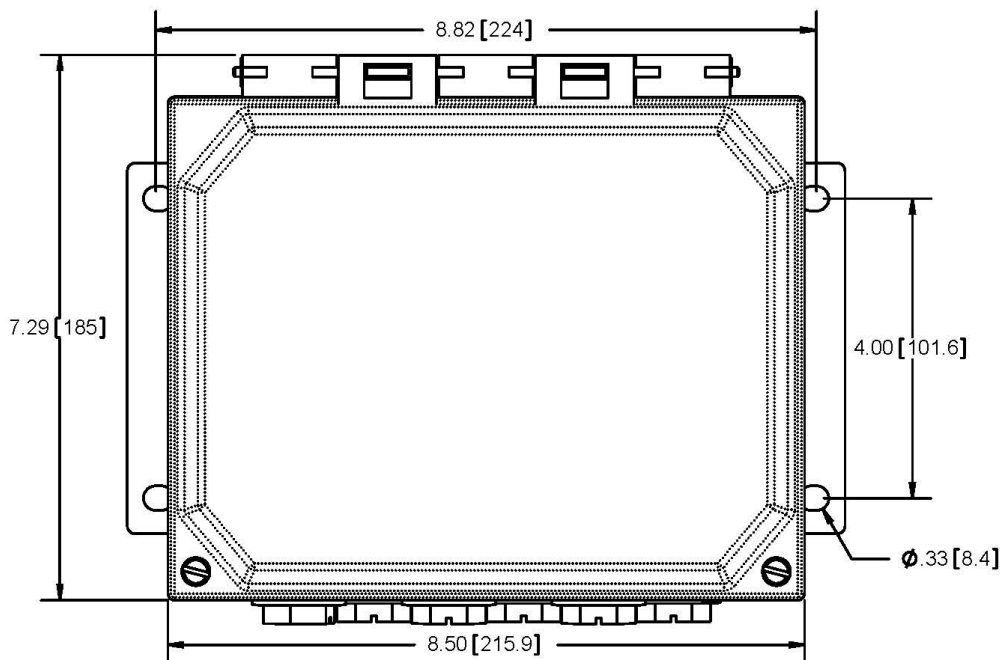

Fig. 3
Mount the controller using the four (4) holes provided (*Fig. 3*).